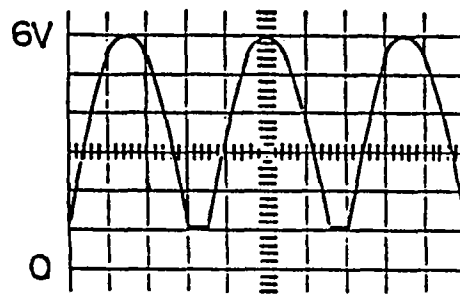

Figure 5-4. NRZI Read Output
3. While writing, scope each track on the NRZI Read board, slot 9A, and adjust its level to 6.0 volts zero-to-peak, as shown in Figure 5-4.